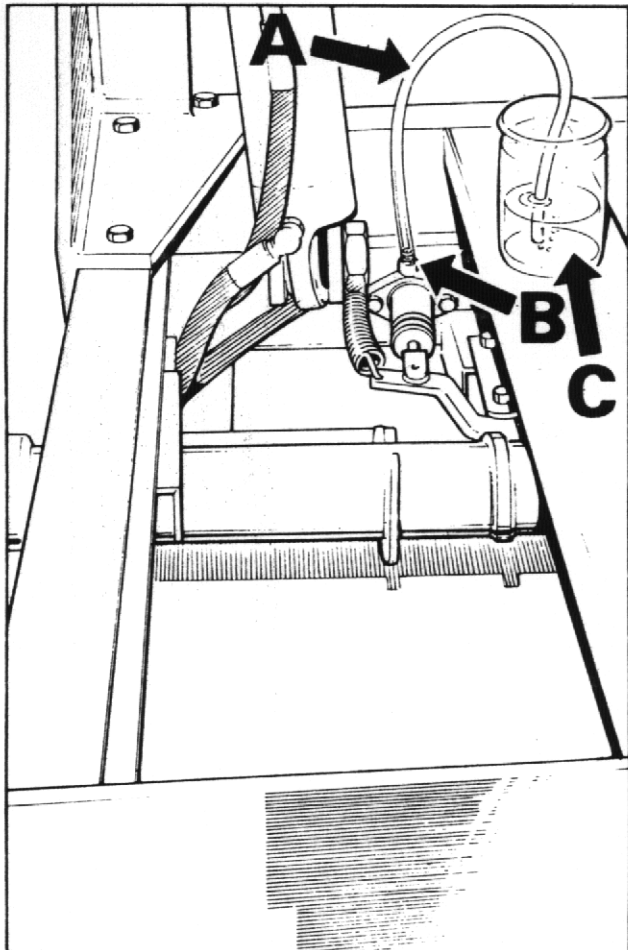

FIG. 10
3. Attach bleeder tube (A) (See Fig.10) to the bleed screw (B) on the front slave cylinder, immerse the other end of the tube in a small quantity of brake fluid contained in a glass jar (C). Slacken bleed screw and operate brake pedal up and down to its full stroke until fluid pumped into the jar contains no air bubbles. Hold pedal down and close bleed screw. Remove bleeder tube and release pedal.